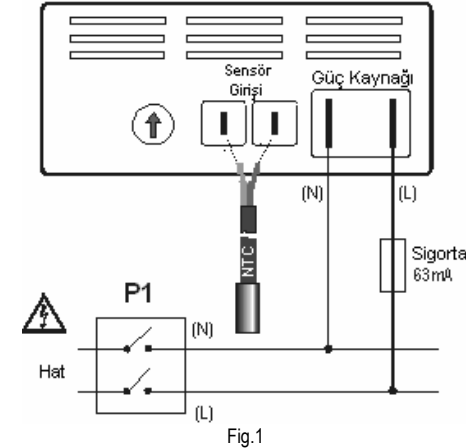

Fig.1
3. KURULUM - 230V VEYA 115V (FIG.1)
4. SENSÖR DEĞİŞTİRLMESİ (FIG.1)